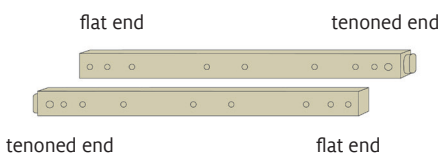

FIGURE 2: ORIENT CROSS BRACES
2. Each cross brace has two short ends: the tenoned end fits into the large hole in the brace, and the flat end faces inward. Orient the cross braces with the tenoned ends facing outward, as shown in Figure 2.